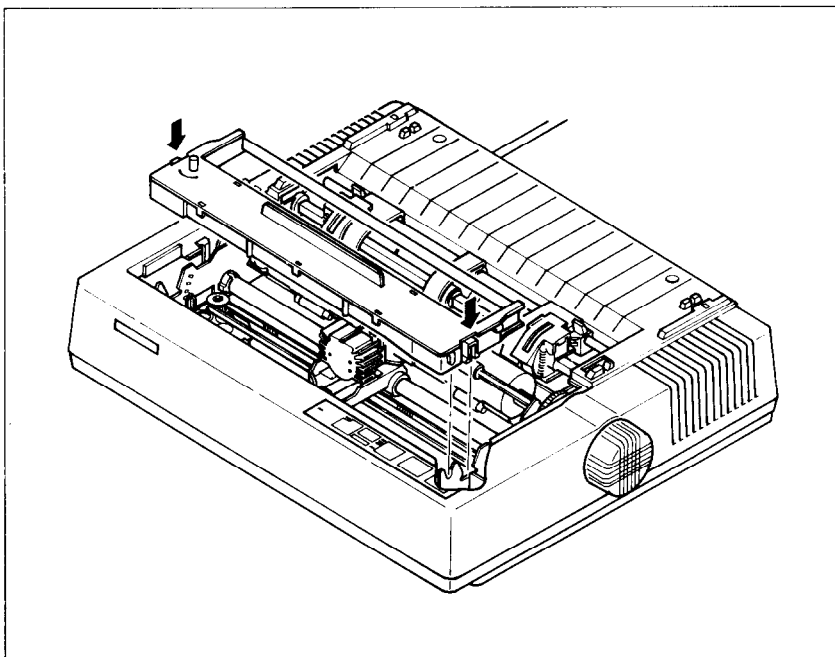

Figure 1-4. Press the cartridge into place until the holding springs snap into place.
3. Using the guide holders as a fulcrum with the ribbon facing away from you, as shown in Figure 1-4, lightly press the cartridge down until the two holder springs snap shut to hold the cartridge firmly in place.